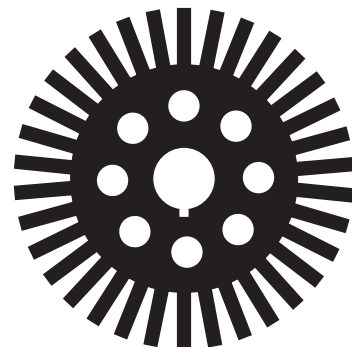

Fig. 7. Drum armature stamping with axial flow ventilation system.
- For *small machines* the laminations are punched in one piece (see Fig. 7). These laminations are built up directly on the shaft. With such an arrangement, it is necessary to provide *axial ventilation holes* so that air can pass into ventilating ducts.